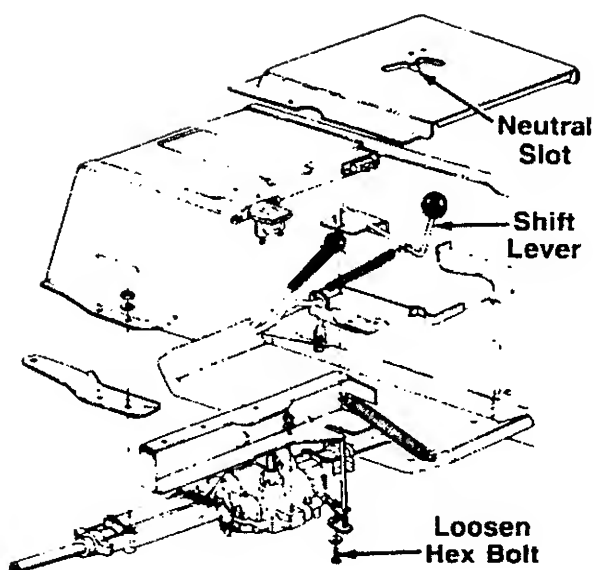

FIGURE 13.
2. Loosen the bolt which secures the shift lever assembly to the shift lever link. See figure 13.
3. Place the shift lever in the neutral slot. See figure 13.